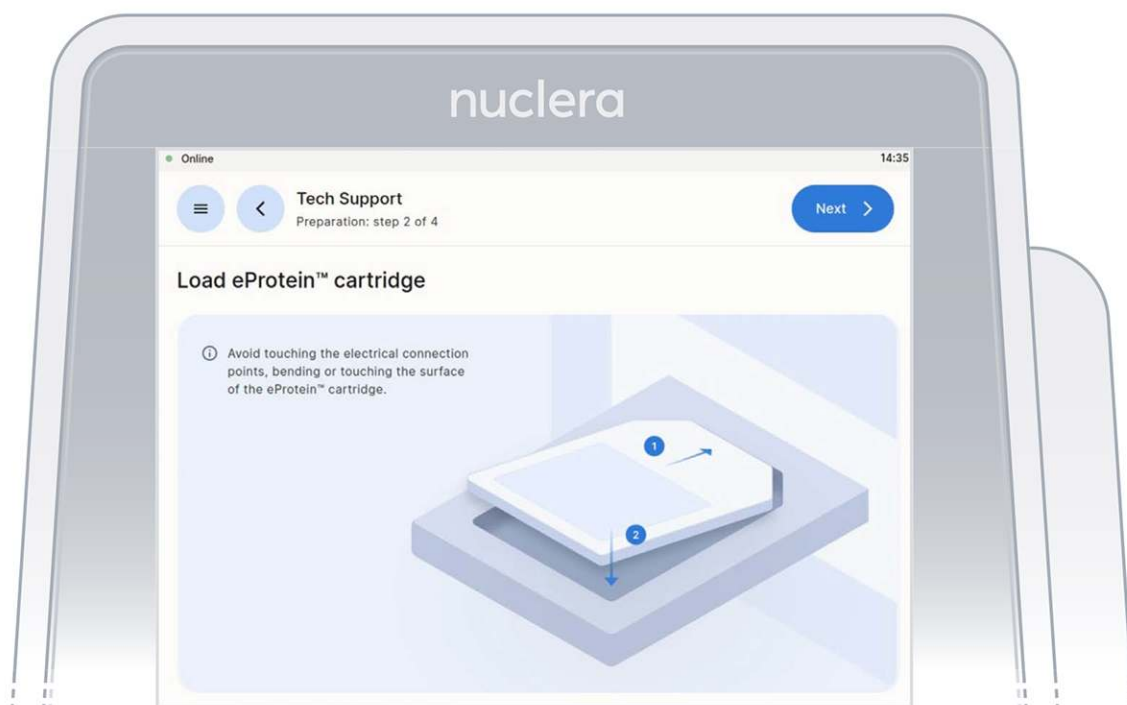

Figure 10: Checklist screen before the experiment starts.
7. Place the cover on the cartridge, avoid touching the electrical connectors, and press the **[Next]** button (Figure 10).